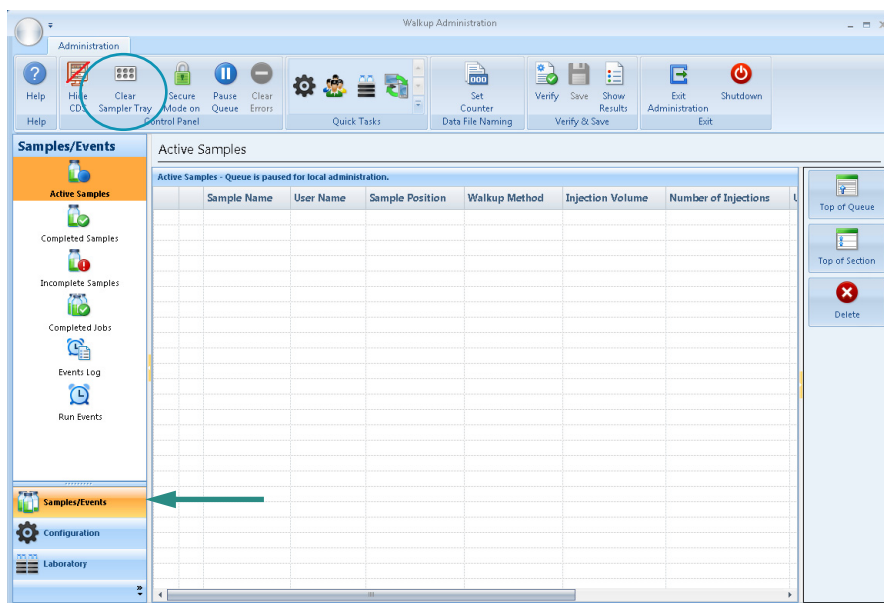

Figure 19 Clear Sampler Tray in the Samples/Events ribbon
- 4 Click **Samples/Events**  from the list of actions along the left side of the Administration main window (see Figure 19). See “To open the Samples and Events pane” on page 27.
- 2 Click **Samples/Events**  from the list of actions along the left side of the main window (see Figure 19 on page 26).